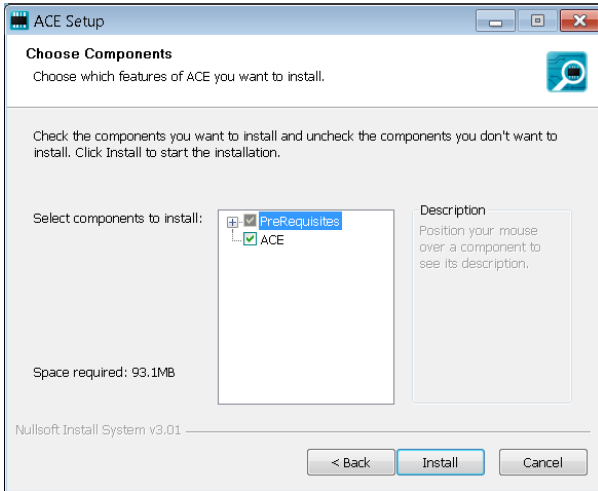

Figure 5. Choose Components
- The **ACE** software components to install are preselected (see Figure 5). Click **Install**.